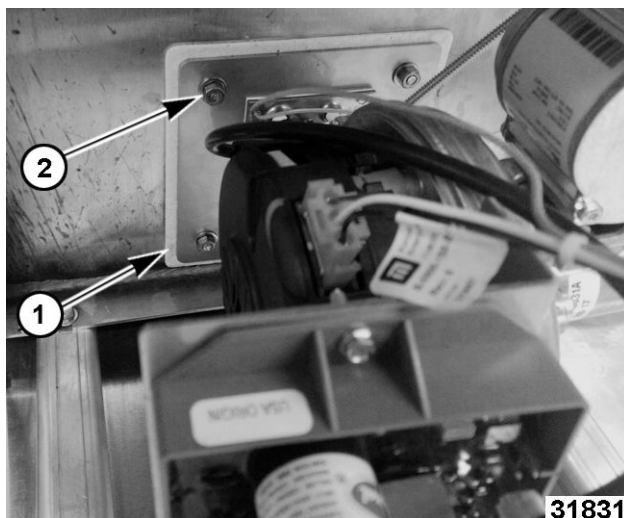

Fig. 10
8. Clean gasket surface and install new gasket (1, Fig. 10) while mounting new burner assembly.
**NOTE:** Use existing nuts and washers (2, Fig. 10) when mounting new burner assembly.